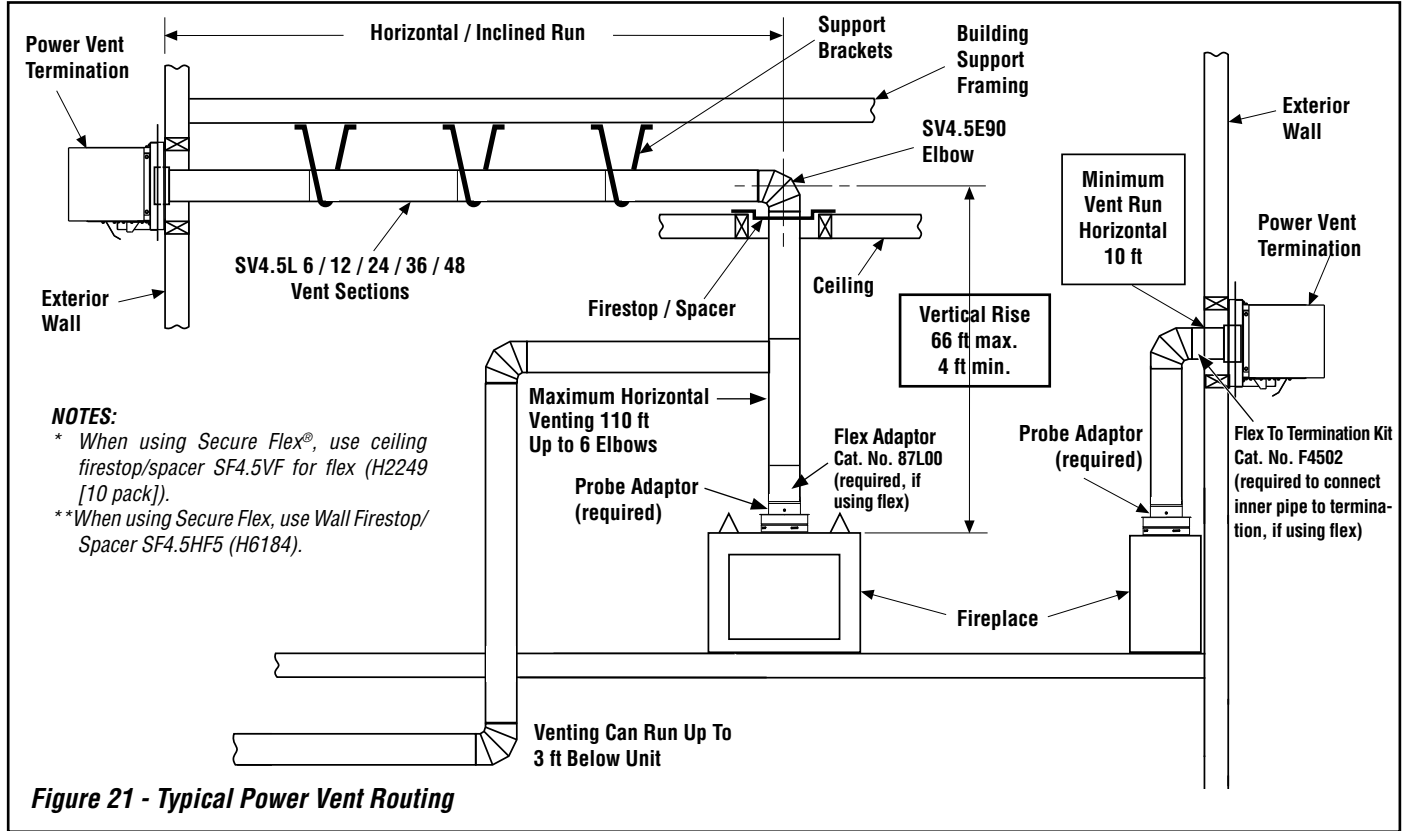
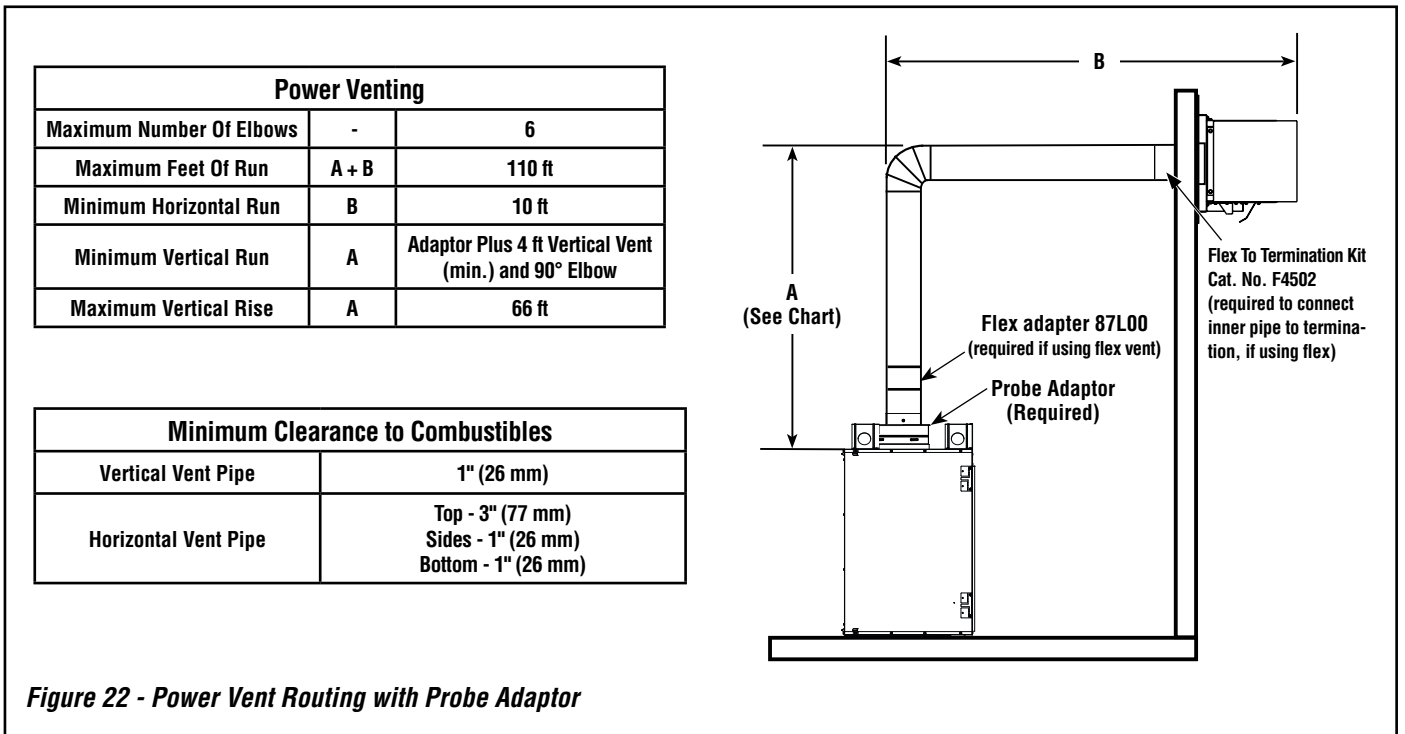

Figure 21 - Typical Power Vent Routing
Figure 22 - Power Vent Routing with Probe Adaptor
C. Attach vent components to each other. Other vent sections may be added to the previously installed section in accordance with the requirements shown in *Figures 21 and 22 on Page 19*.
G. Continue installation of horizontal/inclined sections. Continue with the installation of the straight vent sections in horizontal/inclined run as described in **Step C**. Install support straps every 3' (914 mm) along horizontal/inclined vent runs using conventional plumber's tape (*see Page 19, Figure 21*).
See **Figures 21 and 22 on Page 19** illustrating the various horizontal venting configurations that are possible for use with these appliances. The table in **Figure 22 on Page 19** shows each system's minimum and maximum vertical and horizontal length values that can be used to design and install the vent components in a variety of applications.
See **Figure 21 on Page 19**.